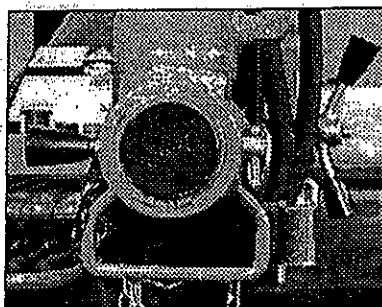

fig. 31
- Remove the check pin and the locking pin from their position (fig. 31).